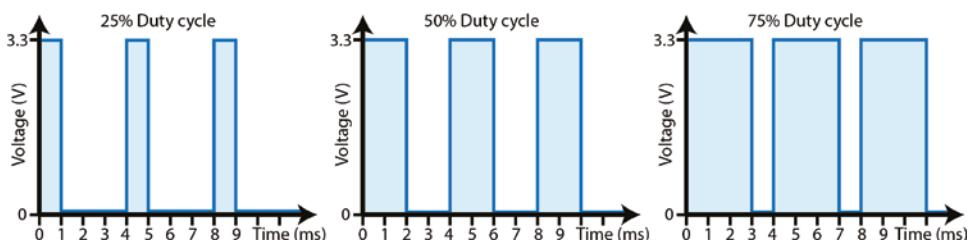

Figure 4-10: Duty cycles of pulse width modulation (PWM) signals
Figure 4-10 illustrates a PWM square wave signal at different duty cycles. The duty cycle is the percentage of time that the signal is high versus the time that the signal is low. In this example, a high is represented by a voltage of 3.3V and a low by a voltage of 0V. A duty cycle of 0 percent means that the signal is constantly low, and a duty cycle of 100 percent means that the signal is constantly high.
The period (T) of a repeating signal (a periodic signal) is the time it takes to complete a full cycle. In the example in Figure 4-10, the period of the signal in